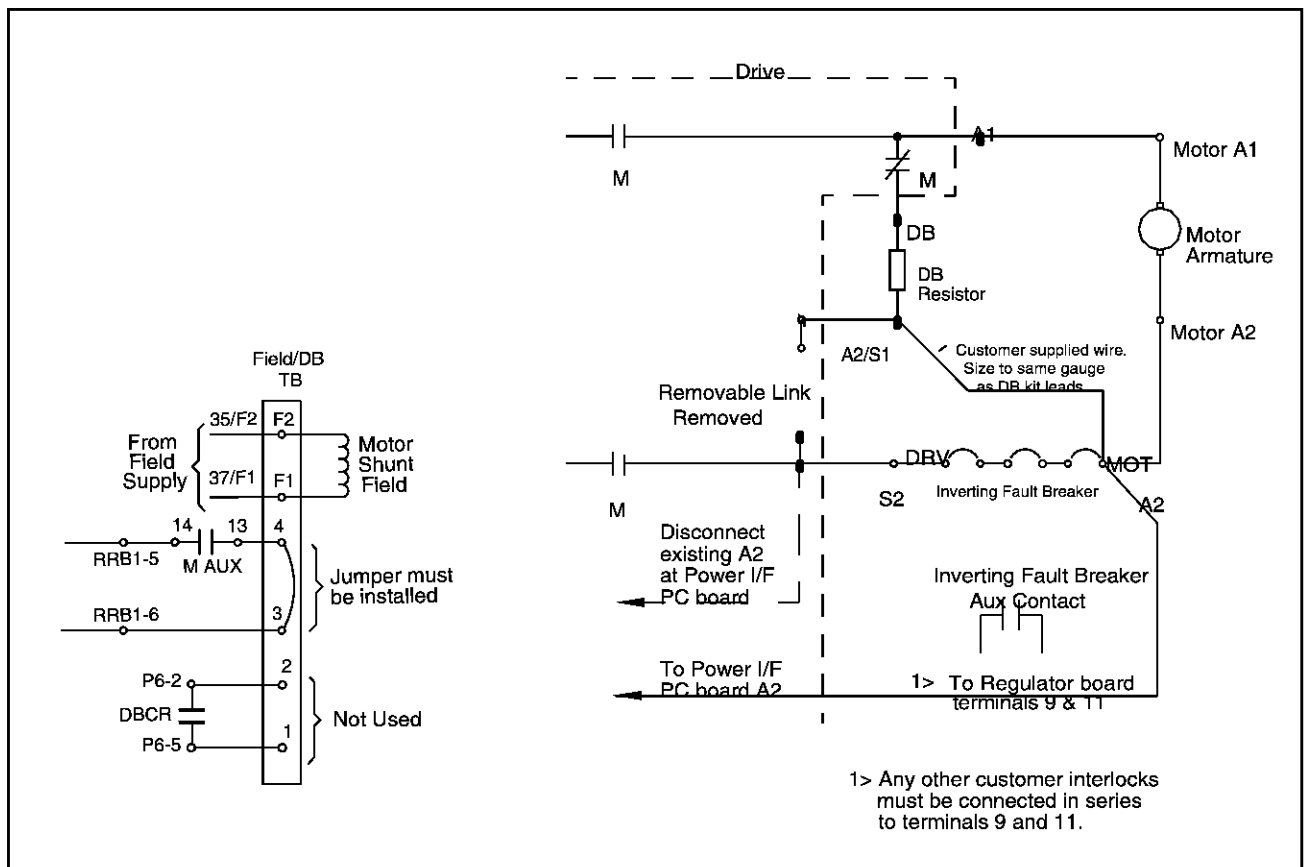

Figure 3 – Inverting Fault Circuit Breaker with Dynamic Braking
- Step 2. Refer to figure 3. Connect motor armature lead A2 to Inverting Fault Circuit Breaker terminal MOT. (See figure 9 for the location of the breaker's MOT terminal.) Terminate the breaker side of the leads with lugs of the appropriate gauge.